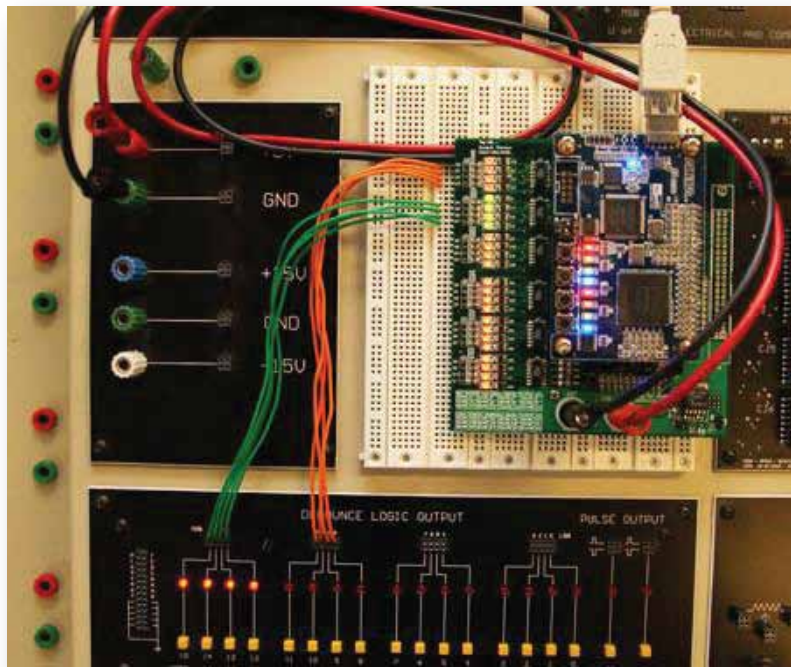
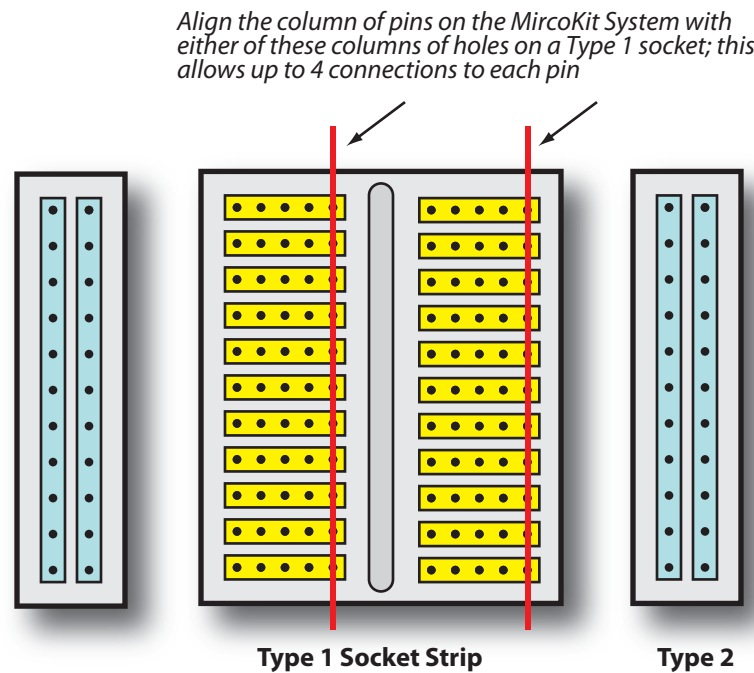

Fig. 8. Typical installation of the MKS for ENEL 353 experiments
Fig. 9. Suitable locations for installing the MKS
The first step is to make all necessary electrical connections to the MKS, including the input and output signals, the power supply, and the “USB Blaster” programming cable. A typical installation suitable to carry out experiments in the course is shown in Fig. 8.
1. On the bottom of the MKS is a single column of pins that must be inserted into holes in the prototyping area. Pick a Type 1 socket strip on the prototyping area (i.e., a socket strip with *horizontal connectivity*). Note that using a Type 2 strip with vertical connectivity will simply short-circuit all of the pins! Carefully insert the pins of the MKS into the right-most of the five horizontally-connected holes on either half of the socket strip, such as where indicated in Fig. 9 and demonstrated in Fig. 8. This provides four holes in each row for wiring to each input/output pin. Press down gently but firmly so that the pins seat snugly in the holes on the socket strip.
- breadboard. For Part 1 of the experiment, this is the 4-bit input E , with e_0 (the LSB) on pin D0. (These are shown as the orange wires in Fig. 8.)
4. Similarly, locate pins D4, D5, D6, D7 on the MKS, and connect four wires from holes adjacent to these pins to four other switches on the breadboard. This is the 4-bit input F , with f_0 (the LSB) on pin D4 (the green wires in Fig. 8).
5. Finally, connect pin D8 on the MKS to a ninth switch (not shown in Fig. 8).
TIP: *A sensible system of colour-coding the wires connecting the 8 inputs above could help in debugging a circuit. Although orange wires are used for all E inputs and green for the F inputs in Fig. 8, it might instead help to choose, say, orange for both e_0 and f_0 , and then, say, green for both e_1 and f_1 , etc.*